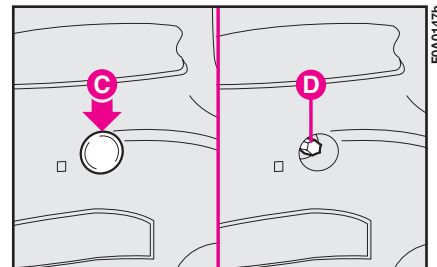

fig. 27
1) Act from inside the vehicle to remove upper plastic cap **C**-fig. 27 by means of the screwdriver available, so that light cluster fastening bolt **D** is made visible.